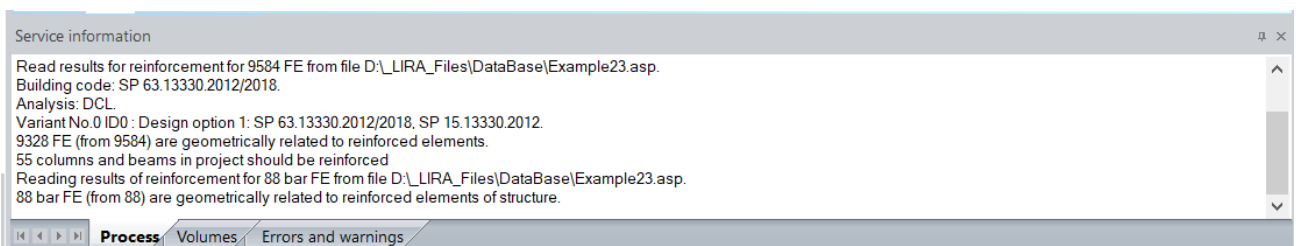

Figure 23.43. **Service information** window
- ⇒ During the import of analysis results for reinforcement, in the **Service information** window, on the **Process** tab (see Fig. 23.43), the following data is mentioned: